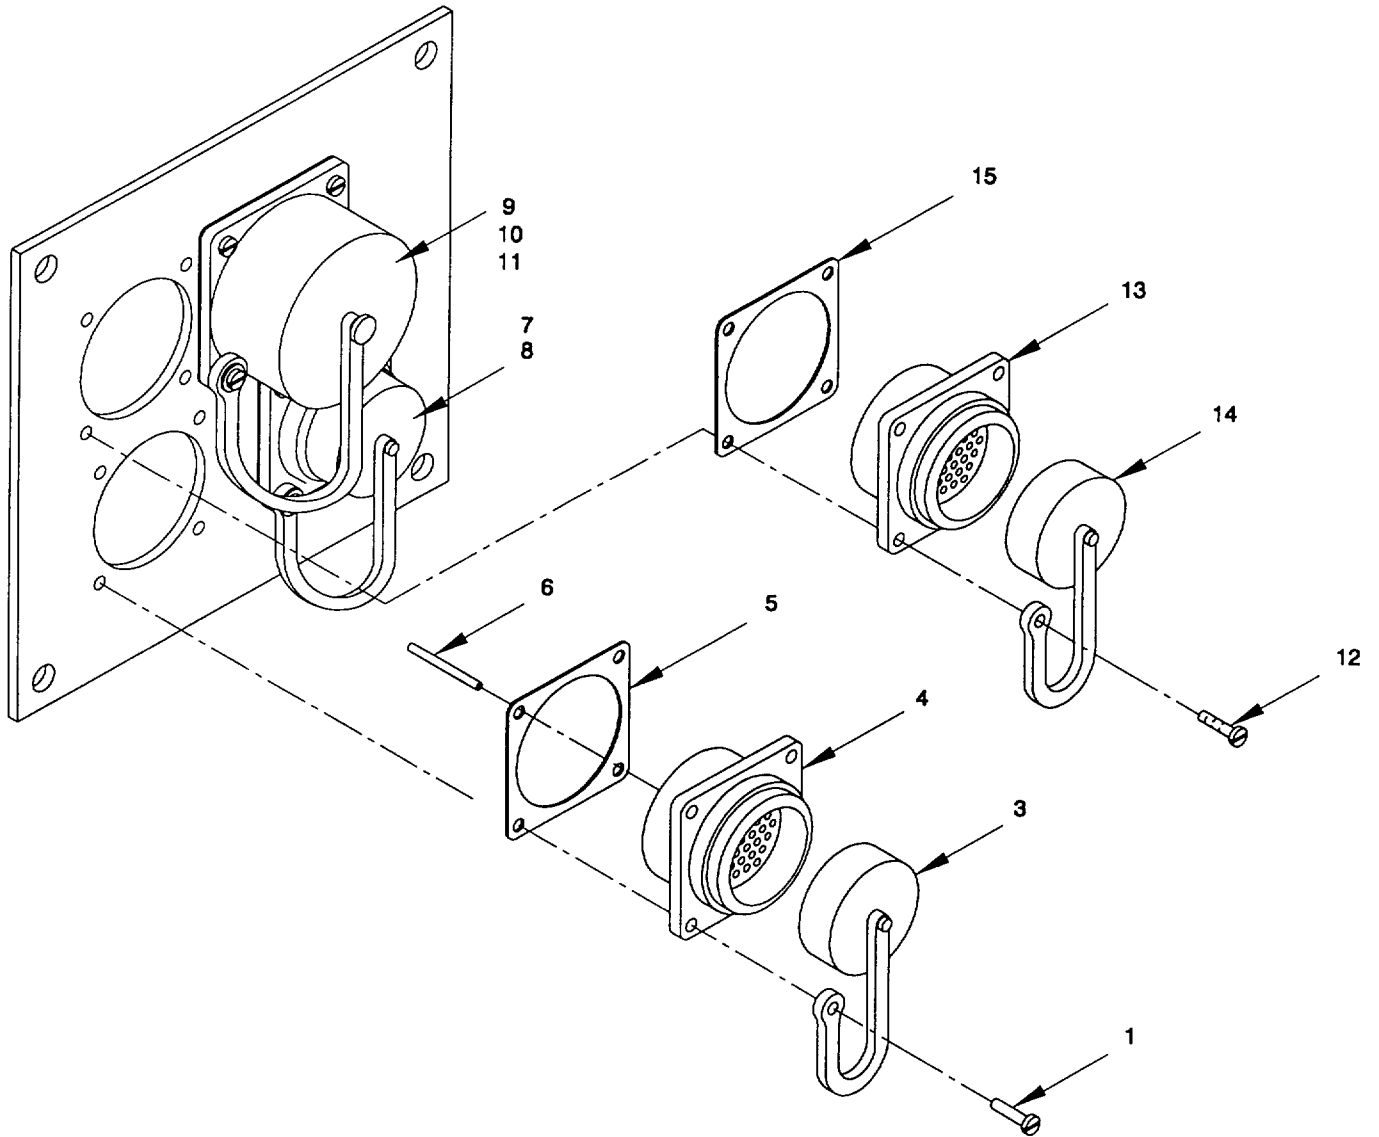

Figure 2-143. Typical Starboard Receptacle "A5"/Port Receptacle "A6" Assembly, Repair.
- (1) Disconnect and tag electrical wiring to the receptacle assembly (4). Refer to Appendix G.
- (2) Remove the four capscrews (1), four lock washers (2) and nuts (3) securing receptacle assembly (4). Remove receptacle assembly (4).
- (3) Inspect wiring for loose or broken connections. Replace or repair as necessary to restore to working condition.
- c. *Repair.* (figure 2-143)
- (1) Remove receptacle assembly per step b.